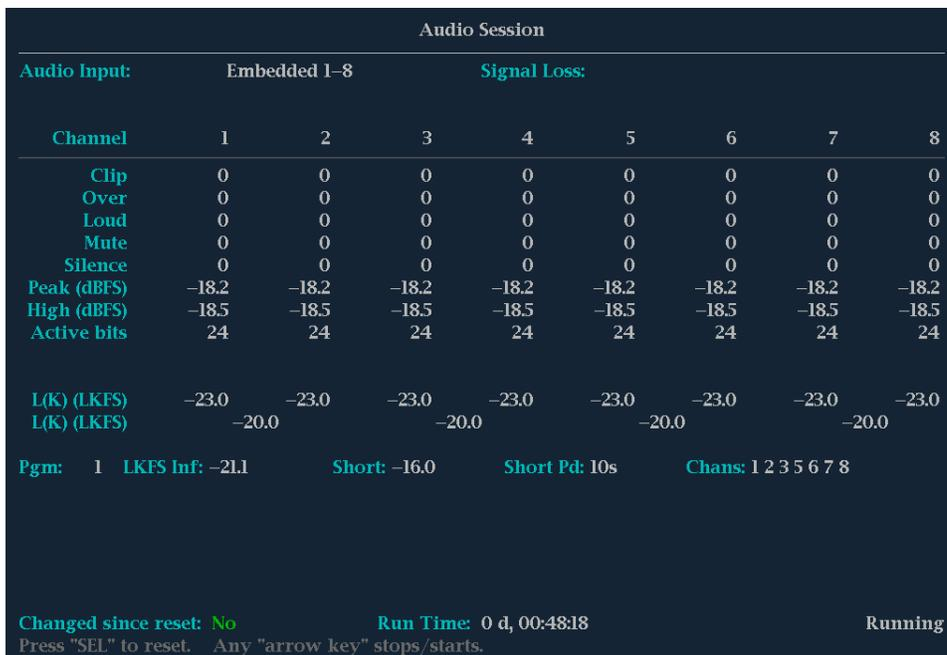

Figure 26: Audio Session display
**Audio Session** With Option AUD, you can access the Audio Session display, which contains several performance parameters that you can display to see an overview of the audio input signal. This instrument maintains a running audio status session. (See Figure 26.)